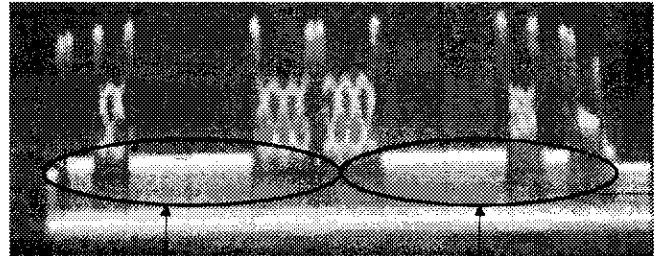

Fig. 1
- ① Similarly to the diag operation, remove the control PWB from the machine.
- ② Install a resistor of $130\ \Omega$ (5 W) between the 13 V output and GND. (Refer to point A in Fig. 1 below figure.)
- ③ Turn on the power.
- ④ Put the voltmeter between the check point of 13 VP on the control PWB and GND, and turn VR101 to set to $13.0 \pm 0.05\text{V}$.
- ⑤ Turn off the power, remove the resistor of $130\ \Omega$ (5 W), and install a resistor of $4\ \Omega$ (50 W) in the same manner as ② and put the voltmeter in the same manner as to check that the voltage is 12.5 V or above.
- ⑥ Turn off the power and install a resistor of $5\ \Omega$ (10 W) between the 5 V output and GND. (Refer to Point B in Fig. 1 on below figure.)
- ⑦ Turn on the power.
- ⑧ Put the voltmeter between the check point of +5 V on the control PWB and GND, and turn VR201 to set to $5.0 \pm 0.05\text{V}$.
- ⑥ Line alignment: Align the scanning line so that scanning is made in the right angles to the original feed direction. Adjustment is made under the condition that the lens focus is adjusted. Adjust the PWB position so that the CCD output is as shown in Fig. 1.
Move the PWB position up and down so that the round mark section in Fig. 2 becomes as shown in Fig. 1.
Enlarge the left edge section of the oscilloscope screen shown in Fig. 1.